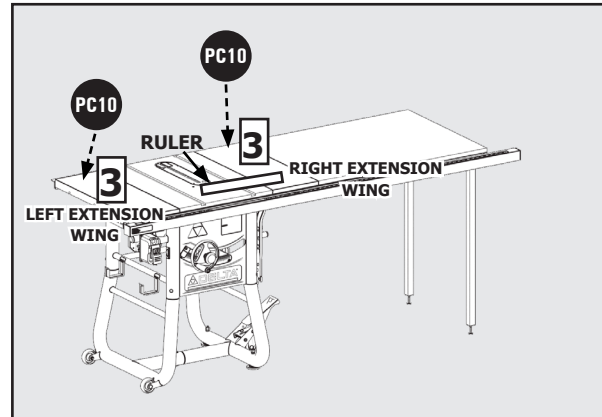

Figure 10
4. Attach the left side extension wing (PC10) [3] to the side of the saw table using three 5/16 18 x 7/8 inch hex head screws with Split Lock Washers (HP7). See Figure 10.
4. Attach the extension wings (PC10) [3] to the table using three 5/16-18 x 7/8 inch Hex Head Screws with Split Lock Washers (HP7) for each wing. See Figure 10.
NOTE: Use a ruler to make sure the top edges of the wings are flush with the top of the tabletop. See Figure 10.